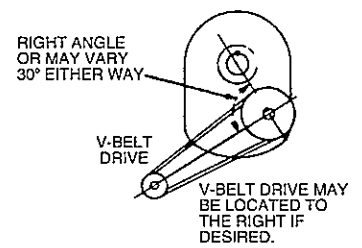

Fig. 3
5. Install motor and V-belt drive so belt will approximately be at right angles to the center line between driven and input shaft (see Fig. 3). This will permit tightening the V-belt with the TORQUE-ARM. If a TAM/TAMM motor mount is to be used, refer to page 5.